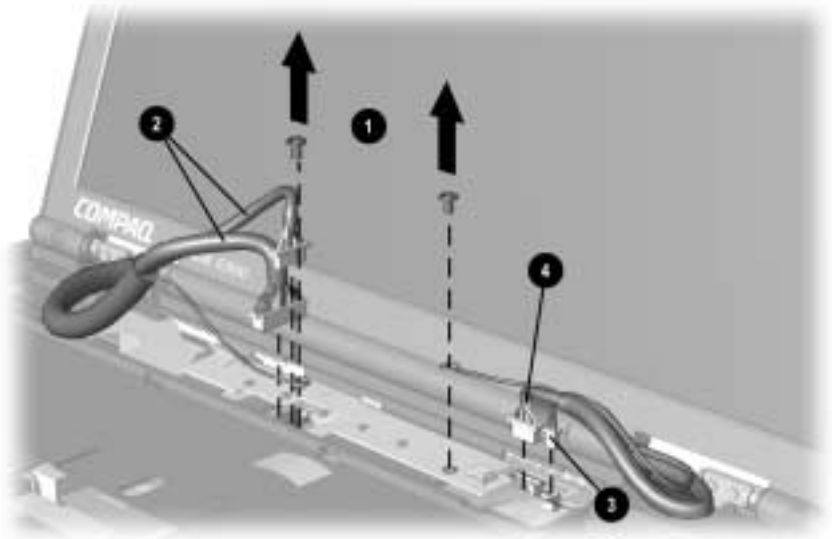

Figure 5-14. *Disconnecting the Display Assembly Cables*
10. Remove the screws **1** that secure the display ground cables (Figure 5-14).